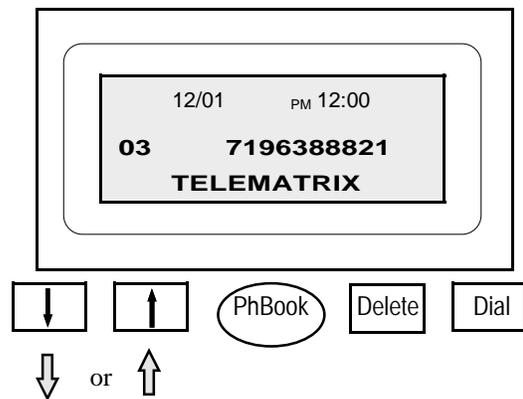

Figure 1
1. Press the “↑” or “↓” key to activate stored memory. The LCD screen will display a record. Scroll to the caller record to be placed in the Phonebook (figure 1).